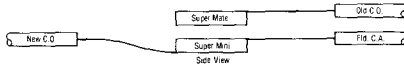

Fig. 37—Separate old cable that is in Super Mate Module.
- g. When related work is complete and the removal of the old C.O. is needed; use the 4053PM Separator Tool to separate the old cable that is in the Super Mate Module. See Figure 37.